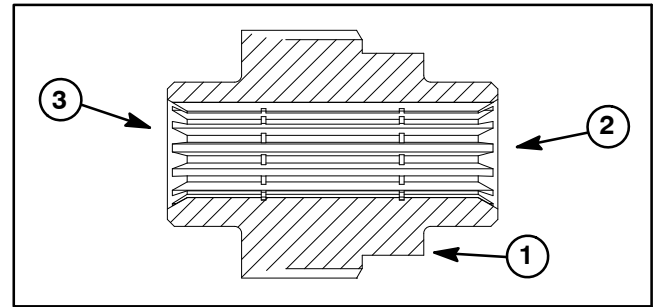

Figure 2
**NOTE:** The stepped end of the splined brake shaft must be aligned toward the hydraulic wheel motor (Fig. 2).